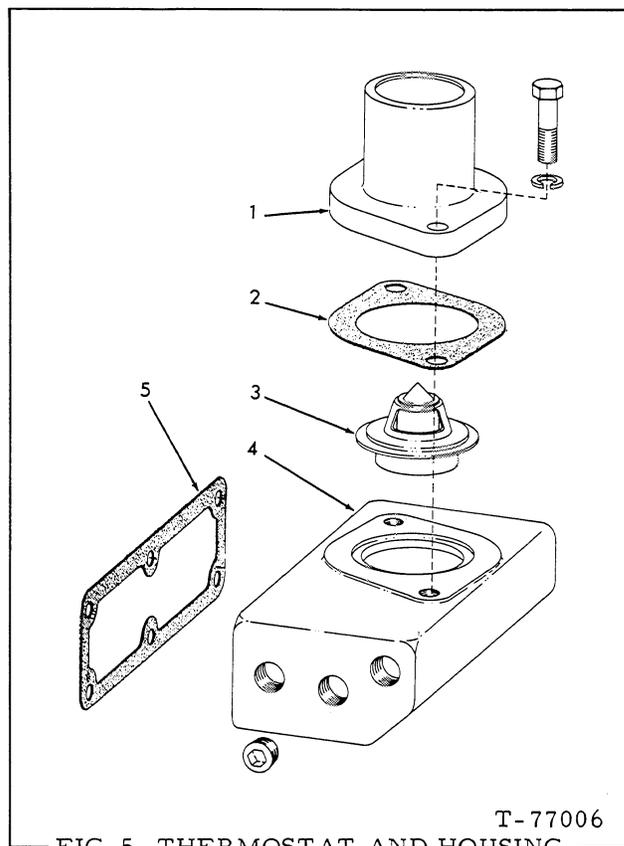

FIG. 5 THERMOSTAT AND HOUSING
2.4.2.1 THERMOSTAT REMOVAL (Fig. 5)
2.4.2.3 THERMOSTAT INSTALLATION (Fig. 5)
Remove capscrews and lockwashers attaching water outlet flange, Fig. 5 (1), to thermostat housing (4); free flange from housing and remove gasket (2).